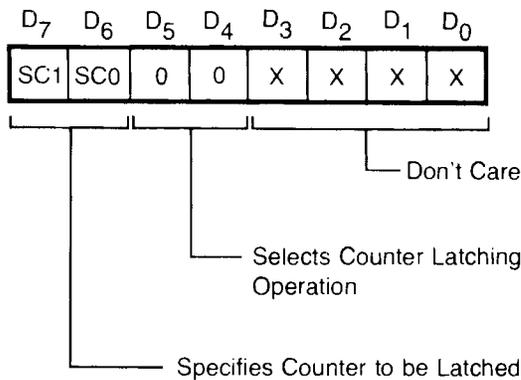

Figure 3-10. PIT Counter Register Latch Control Word Format
- Write counter register latch control word (figure 3-10) to XB. Control word specifies desired counter and selects counter latching operation.